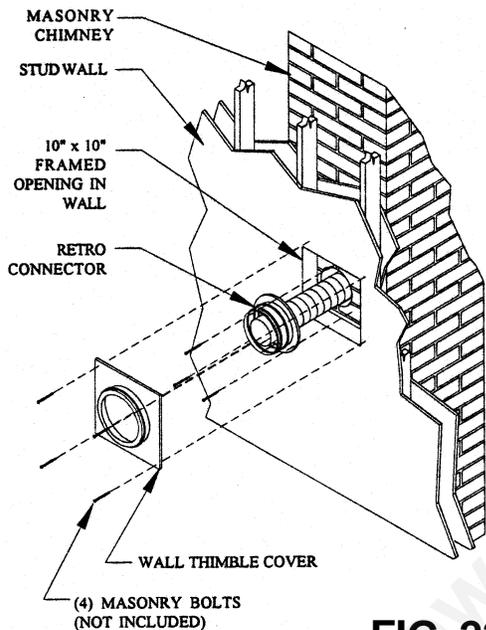

FIG. 22
- Step 2.** Once the center point of the penetration has been determined, cut a 6" (152mm) diameter hole in the masonry. If the hole is too large, the retro connector might not mount properly; if the hole is too small, the appliance might starve for intake air. If there is a frame wall in front of the masonry wall, cut and frame a 10" (254mm) square opening in the wall (centered around the 6" [152mm] masonry opening). If there is sheet rock only (no studs) in front of the masonry the 10" (254mm) opening is still needed, but does not need to be framed. This allows the retro connector to mount directly on the masonry and provide the correct clearances to combustibles (see Figure 22).
Step 10. Slide wall thimble cover (SDV #940) over retro connector and secure with masonry bolts (Figure 27). If you have a framed wall in front of the masonry, use wood screws to mount wall thimble cover to framed wall, over retro connector and 10" (254mm) square framed opening (Figure 22). If needed, add a section of direct vent pipe to the retro connector in order to extend through the opening in the wall thimble cover.